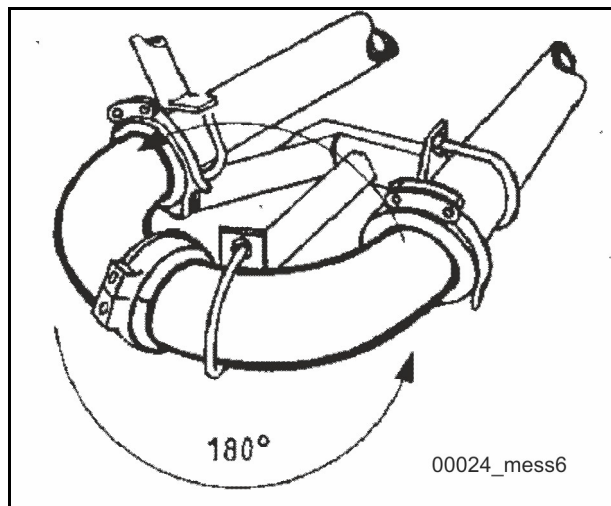

Fig. 356
- Turn pumping pipes and elbows 180° from the inlet side to the outlet side after 50 % of their expected service life (Fig. 356).